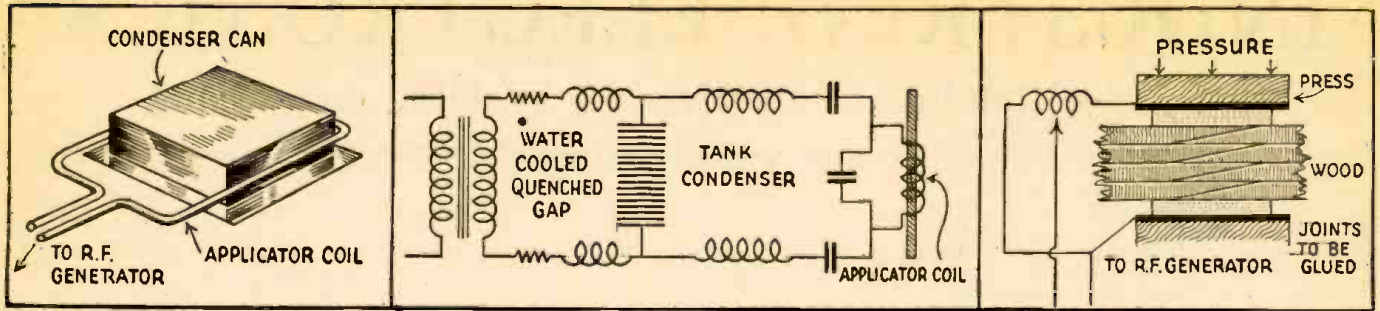

Fig. 4—H.F. heat solders condenser cans. Fig. 5—A quenched-gap type of H.F. heater. Fig. 6—A set-up for H.F. gluing of plywood.
Fig. 3, Upper left—How cells are connected in parallel. Fig. 4, Lower left—A dropping resistor in an A.C.-D.C. radio filament circuit. Fig. 5, Right—How conductance may be used for calculating resistors connected in parallel is illustrated in this typical receiver network.
It would appear especially that electronic H.F. generated heat has a great future in soldering operations. The RCA Victor Division of the Radio Corporation of America has already pioneered this field and has a large installation of such equipment in daily use. Fig. 4 will illustrate the simple circuit used and the place of the metal container in relation to the single loop of heavy wire carrying the H.F. current. Such a system not only works beautifully with single containers but such containers may also be placed in small groups and soldered *en masse*. The cans may also be placed on
The voltage across an inductance (L) leads in phase by 90° the current through it. Also the voltage across a condenser (C) lags in phase by 90° the current through it. The voltage across a resistance (R) is in phase with its current. In Fig. 4 we show how to add (vectorially, of
course) several combinations of voltage with due regard to phase. The whole procedure is simplicity itself, yet is of the greatest importance. In Fig. 4 the subscript L or C refers to the inductance or capacity and the length of each component voltage may either be calculated or measured on a voltmeter. Once we have each component voltage we must add them by vectors addition. If in the case of C plus R, for instance, our A.C. voltmeter shows 3 volts across C and 4 volts across R, the meter across the entire circuit will show 5 volts.